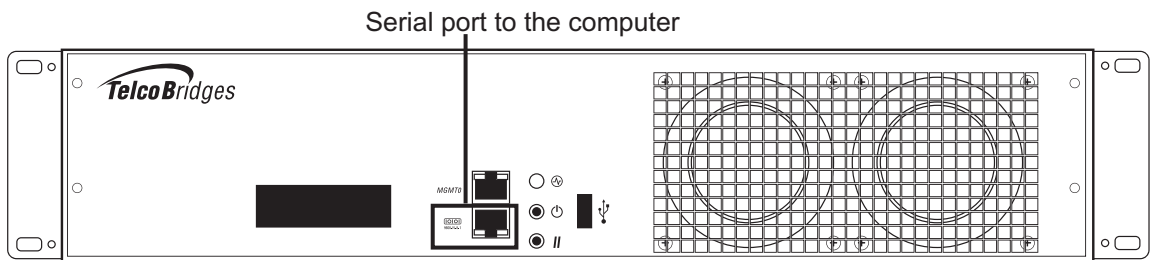

Figure 3.1 Computer to 3200 Series Gateway Serial Port Connection
1. Connect a CAT5 RJ-45 (male-male) cable (supplied with unit) between the com port of your computer and the serial port (labelled 10101) of the 3200 series gateway as shown in figure 3.1 on page 56. See Section A.2 on page 64 for a RJ-45 console wiring diagram.